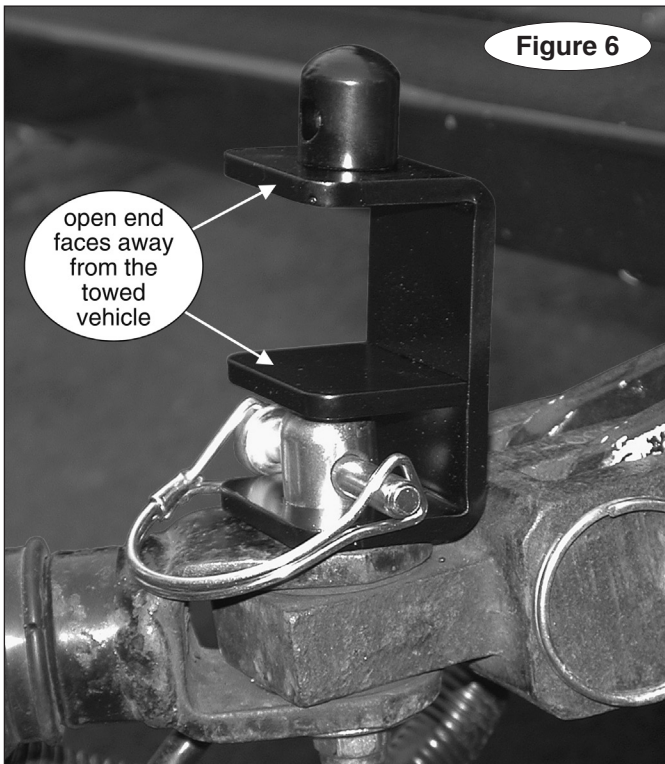

Figure 6
5. Using the provided D-clips, attach the two lower mounting brackets to the swivel collar bolts. Position the brackets with the open end facing away from the towed vehicle, as shown in Figure 6.